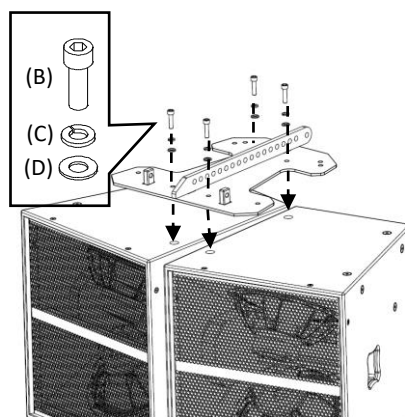

Fig.3-2-4-J
- (5) Using the supplied M10 socket head bolts(B), align the mounting holes on the Rear plate (F) with the mounting points of the rear of the enclosures. Ensure that both the Spring washer(C) and Flat washer(D) are used in between the rear plates(F) and the M10 socket head bolt(B). Tighten the bolts at 15N·m torque. (Fig.3-2-4-K)